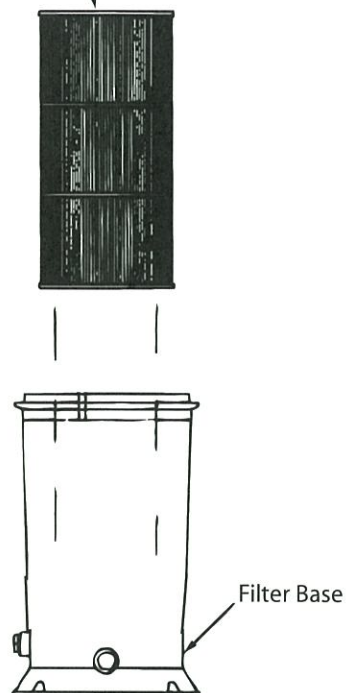

FIGURE 3
3. Make sure filter element is flush with base of filter to avoid damaging element when you replace the filter lid (Figure 3).